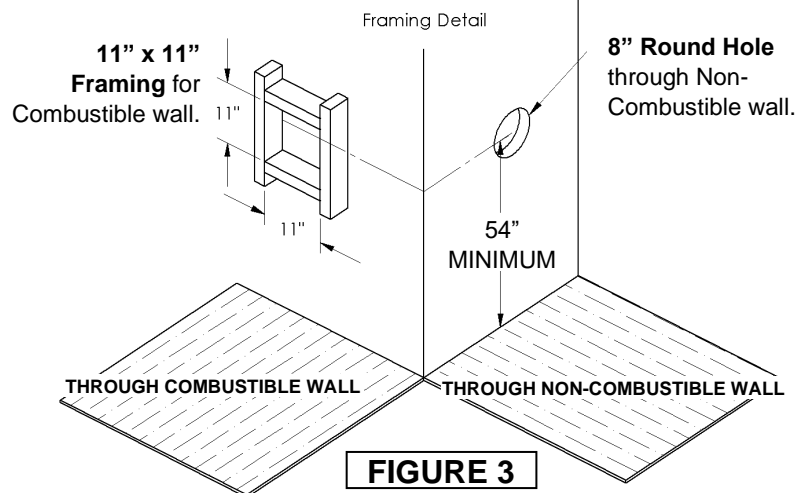

FIGURE 3
1. Use the Venting Table to determine the minimum distance from the bottom of fireplace to center of vent. Cut a hole through the wall allowing for an 11" x 11" (inside diameter) in combustible walls for wall thimble or an 8" diameter hole in a non-combustible wall (See Figure 3).